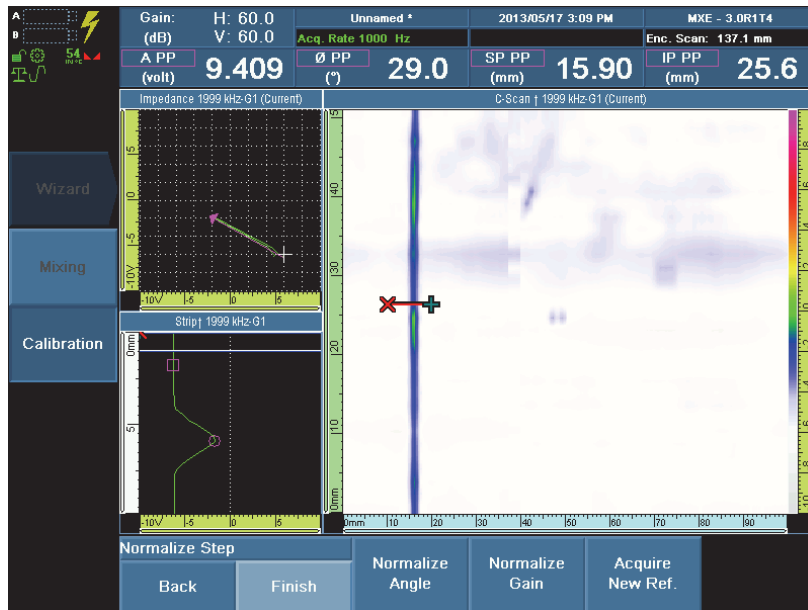

Figure 10-10 Normalizing the angle and the gain
18. Select **Normalize Angle** to perform an angle normalization (the selected signal is rotated until it reaches the **Angle** parameter value that was previously set in the **Acquisition Step**) [see Figure 10-10 on page 199].